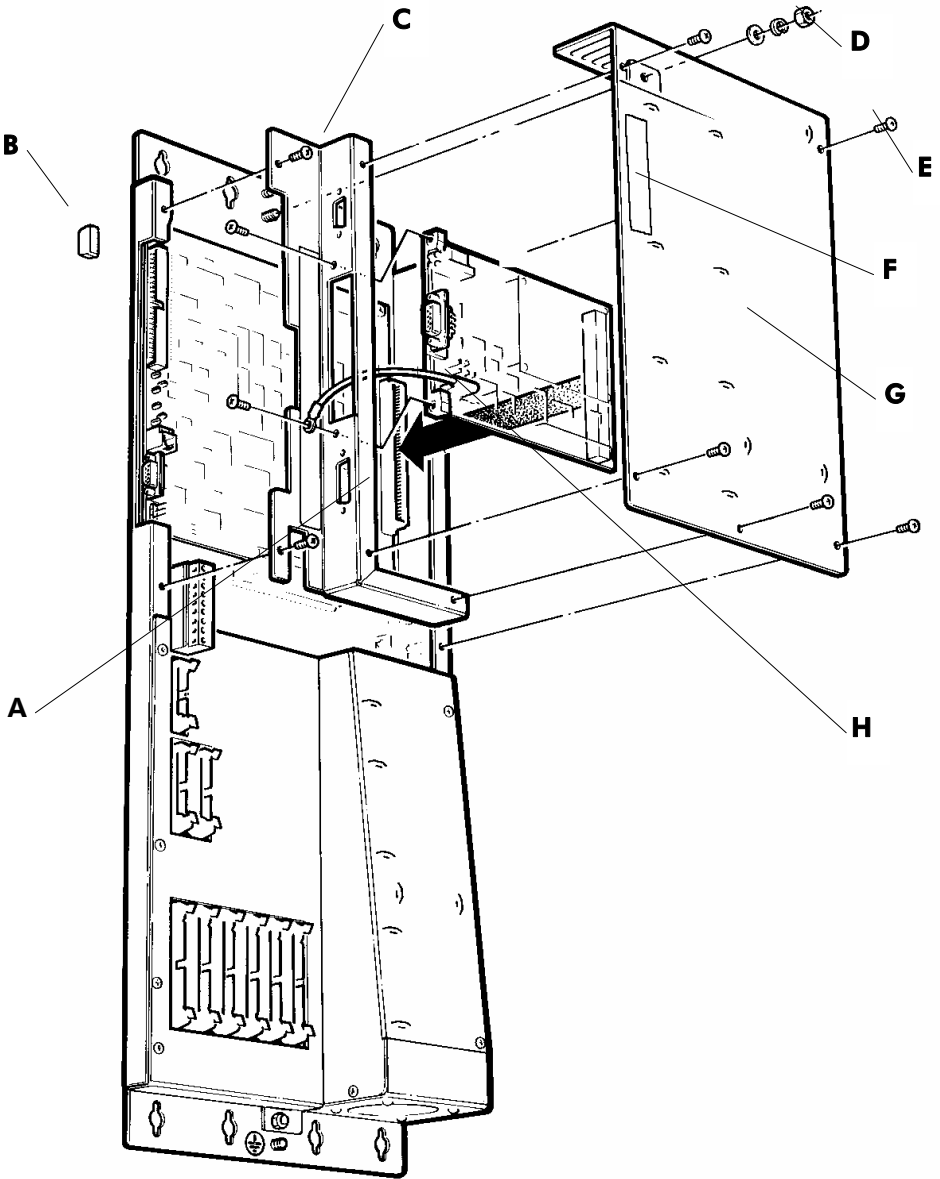

Figure 3-9 DELTA system – fitting the PROFIBUS board
2. Referring to Figure 3-9, remove the five M4 screws (E), and the M5 nut and washers (D) (next to the M5 earth stud), which secure the steel cover plate (G) covering the control board.
5. Locate the 96-way connector on the PROFIBUS board into the socket (A) at the back of the control board, as shown in Figure 3-9. Secure the front panel to the chassis using the two M4 screws removed at step 3.
6. Attach the label (F) if supplied, and fit dust covers (B) to any PROFIBUS connector that will be exposed for a lengthy period, see Figure 3-9.